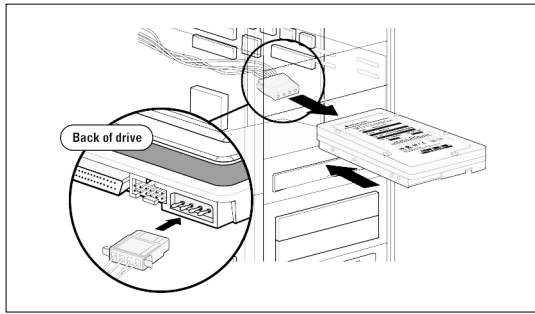

Figure 16. Attaching the Power Supply Cable
- 7) Connect the 4-pin power cable to the power connector on the drive. Although the 4-pin connector is keyed to ensure proper insertion, refer to Figure 16 for correct alignment.